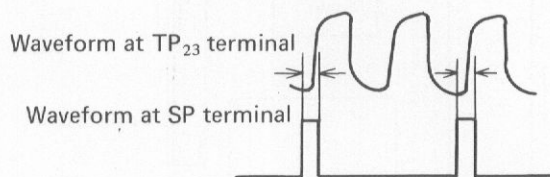

Fig. 13
1. Observe the output waveforms from SP and TP₂₃ (Fig. 13). (Two output pulses from terminal TP₂₃ will correspond with one pulse from terminal SP).